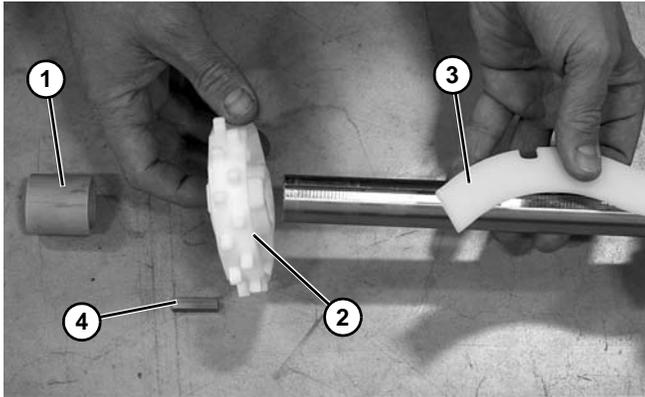

**Figure 51**
8. Slide the headplate with bearing (Figure 51, item 1) off the drive spindle.